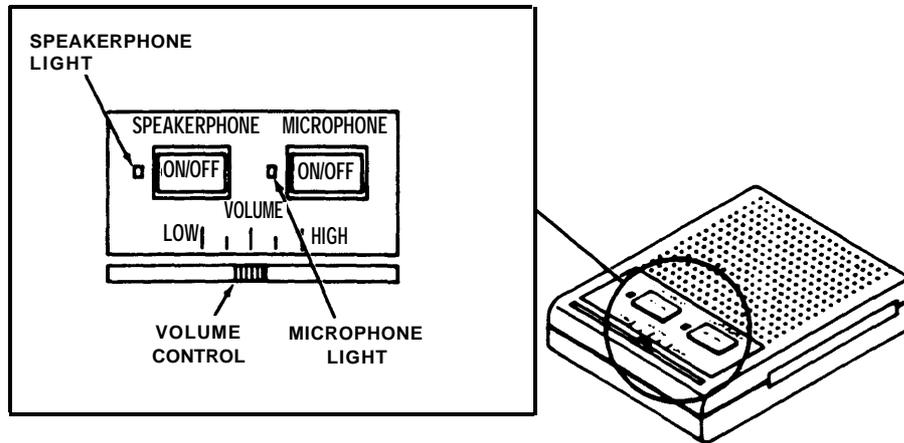

Figure 2
2. Press the SPEAKERPHONE ON/OFF button. The speakerphone and microphone lights come on (see Figure 2) and you will hear dial tone.
5. Slide the Volume Control lever for a comfortable listening level (see Figure 2).